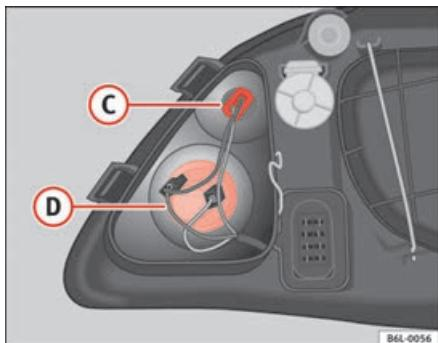

Fig. 158 Indicator lights
- Turn the lamp holder to the left and remove it from the casing ⇒ fig. 158 ④.